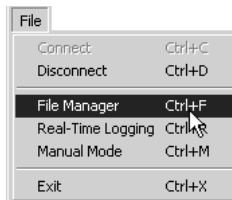

Figure 4-3. File->File Manager
2. Click **File->File Manager** (Figure 4-3).